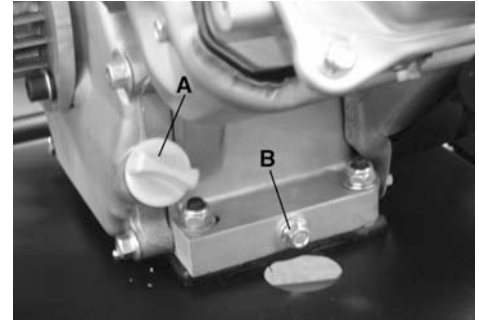

Figure 14
Engine oil should be replaced after the first 20 hours of operation or after the first month of use, it should be replaced every 100 hours or 6 months after. To replace engine oil; Loosen the oil gauge dipstick (A) Fig.14. Place an oil pan underneath drain hex. bolt (B), remove hex. bolt (B) and drain oil. Once all the oil has completely drained, retighten the hex. bolt (B).